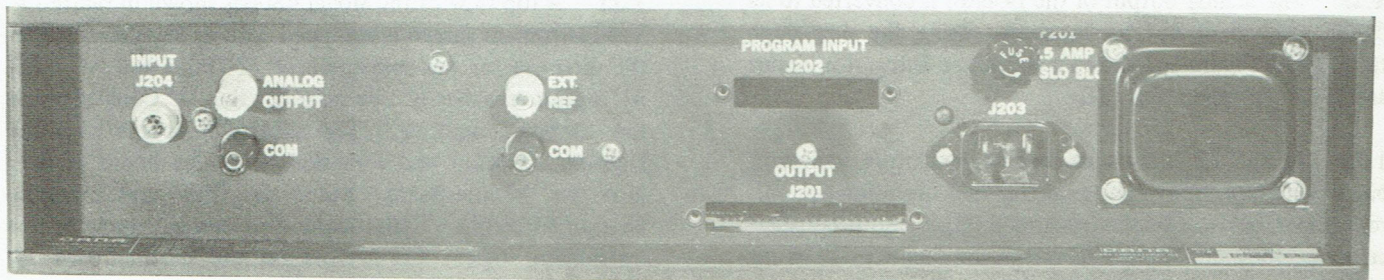

Figure 1.5 - Rear Panel
1.37 At the rear edge of the Interconnection and Logic Assembly is a PCB connector that extends to the rear panel and serves as the BCD output connector J201 (figure 1.5). If the optional Model 70 Remote Program board is installed, it is mounted on stand-offs above the Interconnection and Logic board with the PROGRAM INPUT connector (J202) available at the rear panel above the BCD OUTPUT connector.